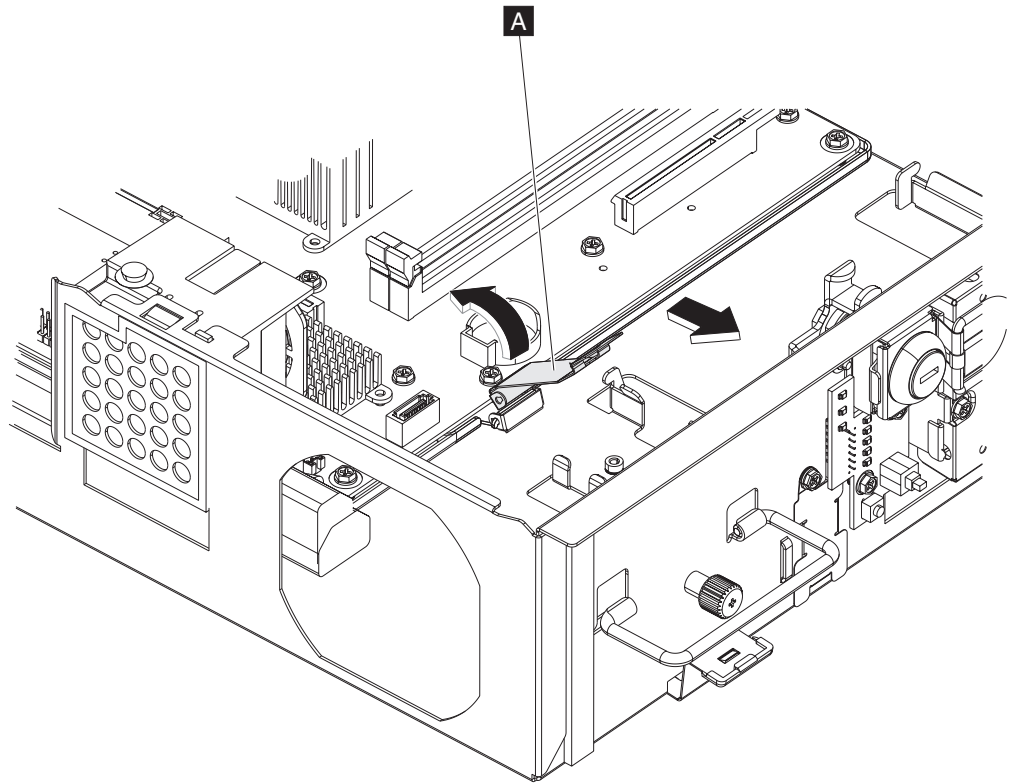

Figure 38. Removing the system board tray
8. Lift the system board tray lever (**A** in Figure 38 on page 53) and pull towards the front of the tray. The system board tray will slide off of its hooks on the bottom of the pullout tray, which lets you remove the system board tray and system board completely from the pullout tray.